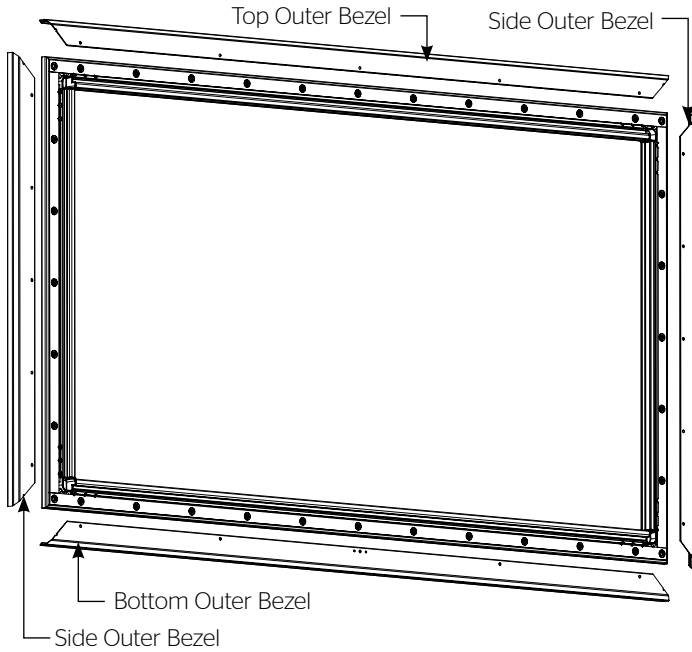
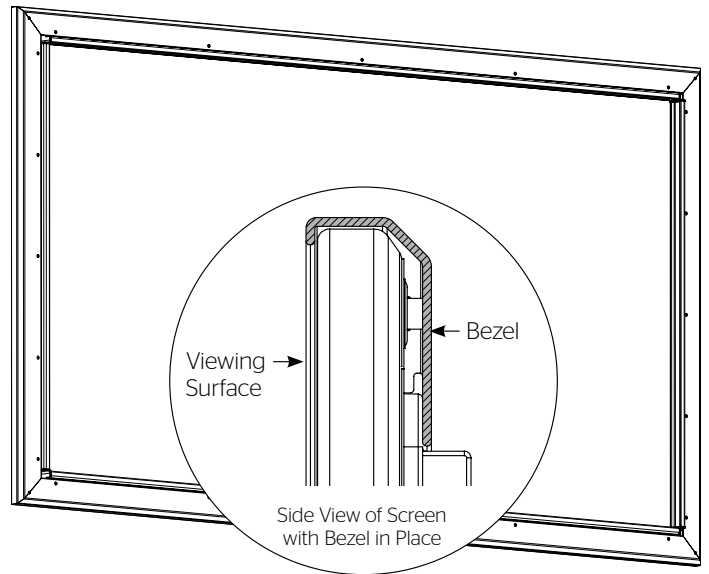

Figure 3a
Figure 3b
1. Position outer bezel pieces on all sides (Figure 3a). Gently lift and slide each outer bezel piece around the inner frame and viewing surface assembly (Figure 3b).